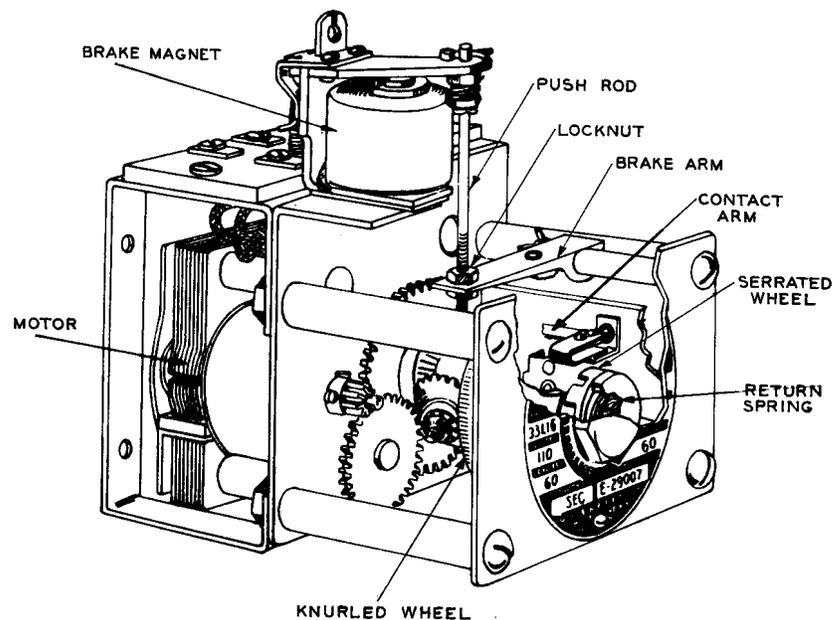

Fig. 5 - Ward Leonard Time Delay Relay
(1) The time delay relay in Square D compensators is of the pneumatic type. See that the mechanism operates without binding and remove dirt as required. Adjustment is accomplished by rotating, as indicated, the knurled knob which is located near the top of the relay at the front.
(2) In the time delay relay in Ward Leonard compensators, (see Fig. 5) a synchronous motor drives a differential gear train, one gear of which is held by means of its associated knurled wheel and a magnet operated brake, causing a contact arm to rotate and close a pair of NO contacts and to open a pair of NC contacts. When released by the brake, the contact arm is returned to its released position by a spring. See that the mechanism operates freely and remove dirt. To adjust the time delay, loosen the lock screw, designated LOCK on the face of the dial, and rotate the hexagonal knob until the arrow points to the desired time setting marked on the dial. Retighten LOCK.
(3) To adjust the brake, with the armature of the brake magnet in its released position, loosen the lock nuts, using two 417A tools, and turn the lower nut up or down on the push rod as required. Tighten by turning the upper nut down on the lower. To adjust the return spring on the contact arm, remove the screw pin located in the shaft in front of the knurled wheel. The serrated wheel, which is normally held by the pin, may be turned clockwise to increase or counter clockwise to decrease the tension, as required and the pin replaced, locking the serrated wheel in the new position with respect to the shaft.